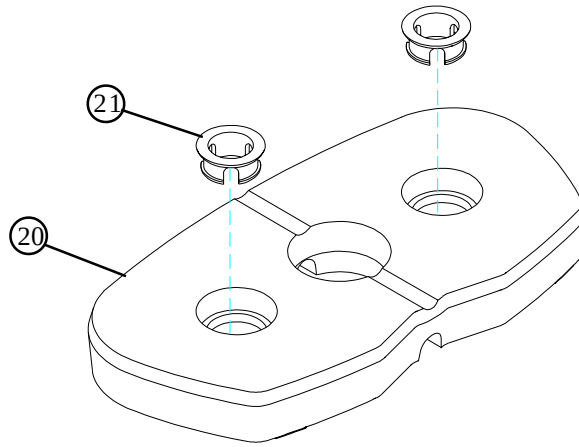

FIGURE 9
- Insert two WEIGHT PLATE BUSHINGS (21) into each of the fifteen WEIGHT PLATES (20) as shown in FIGURE 9.